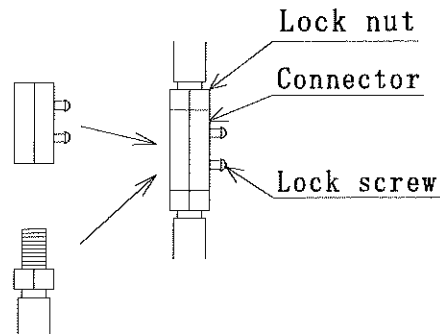

Fig. 7
- (1) In case of 316 stainless steel (See Fig. 7)